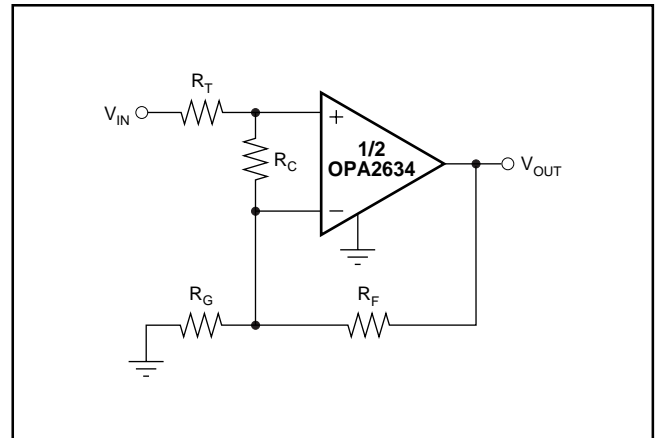

FIGURE 6. Compensated Non-Inverting Amplifier.
Figure 6 shows a non-inverting amplifier that reduces peaking at low gains. The resistor R_C compensates the OPA2634 to have higher Noise Gain (NG), which reduces the AC response peaking (typically 5dB at $G = +1$ without R_C) without changing the DC gain. V_{IN} needs to be a low impedance source, such as an op amp. The resistor values are low to reduce noise. Using both R_T and R_F helps minimize the impact of parasitic impedances.
A good rule of thumb is to target the parallel combination of R_F and R_G (Figure 6) to be less than approximately 400Ω . The combined impedance ($R_F \parallel R_G$) interacts with the inverting input capacitance, placing an additional pole in the feedback network and thus, a zero in the forward response. Assuming a $3pF$ total parasitic on the inverting node, holding $R_F \parallel R_G < 400\Omega$ will keep this pole above $130MHz$. By itself, this constraint implies that the feedback resistor (R_F) can increase to several $k\Omega$ at high gains. This is acceptable as long as the pole formed by R_F , and any parasitic capacitance appearing in parallel, is kept out of the frequency range of interest.
The criterion for setting this R_S resistor is a maximum bandwidth, flat frequency response at the load. For a gain of +2, the frequency response at the output pin is already slightly peaked without the capacitive load, requiring relatively high values of R_S to flatten the response at the load. Increasing the noise gain will also reduce the peaking, reducing the required R_S value (see Figure 6).